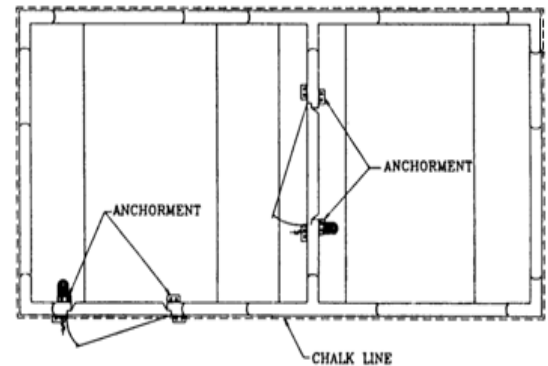

FIGURE 6 - CHALK LINE LAYOUT
2. **Using a chalk line, lay out the outside perimeter of the walk-in.** The perimeter should be 2-1/2" from the center line of the breaker strip. Make sure the area is square by measuring diagonally across corners (Refer to Figures 6 and 7).